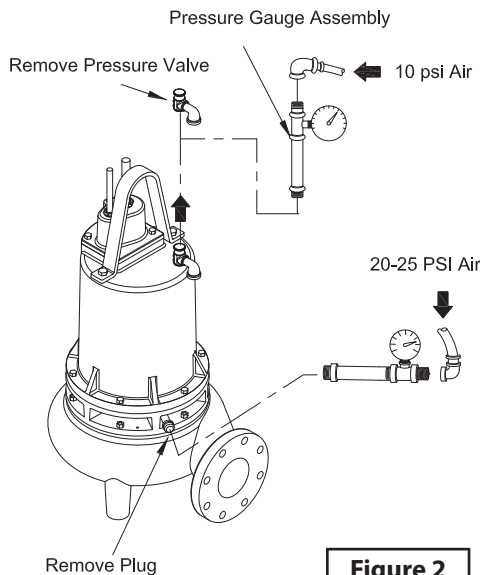

Figure 2
Motor Housing - Oil should be at normal level. Remove pressure valve (10) from motor housing (3). Apply pipe sealant to pressure gauge assembly and tighten into hole (See Figure 2). Pressurize motor housing to 10 P.S.I. Use soap solution around the sealed areas above the oil level and inspect joints for "air bubbles". If, after five minutes, the pressure is still holding constant, and no "bubbles" /oil seepage is observed, slowly bleed the pressure and remove the gauge assembly. Replace oil. Leak must be located and repaired if pressure does not hold.